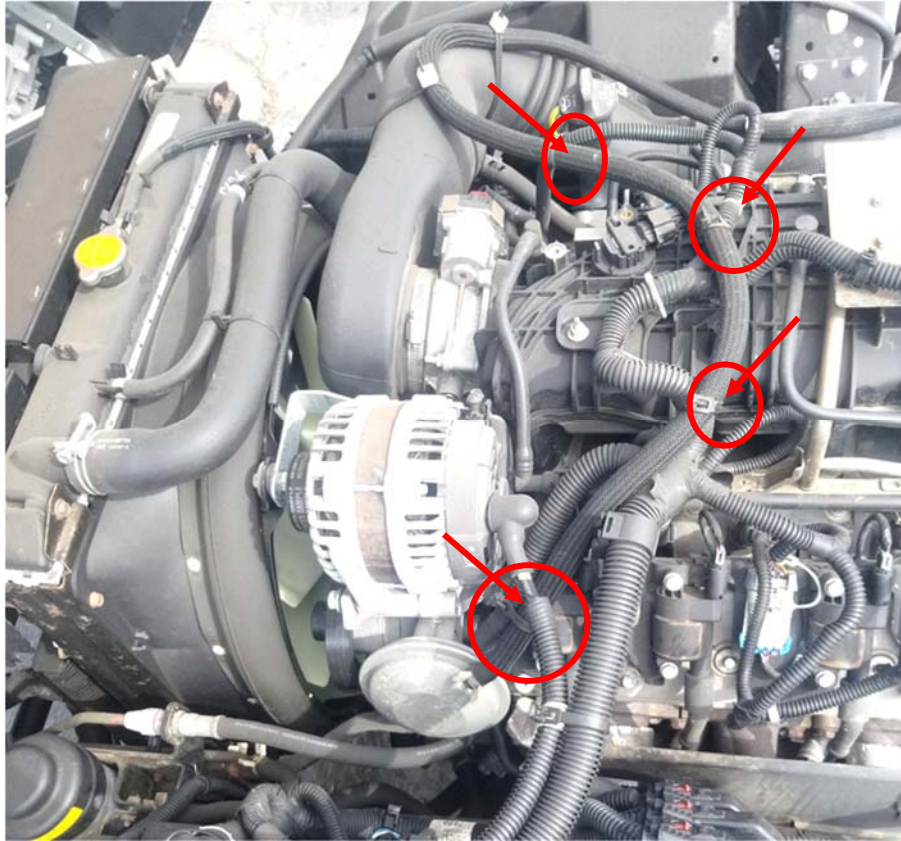

Figure 1
2. Remove the two (2) vacuum hoses (inlet and outlet) from the vacuum pump.
3. Remove zip ties holding the upper vacuum line from the vacuum pump back to the curve of the Air Inlet Duct. (See Figure 1.)